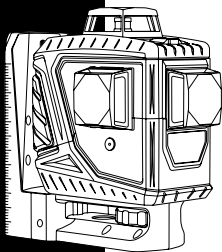

FIGURE 8
- Attach the mount to a metal surface, ensuring that the mount has a strong hold before releasing your hands (Fig.8).